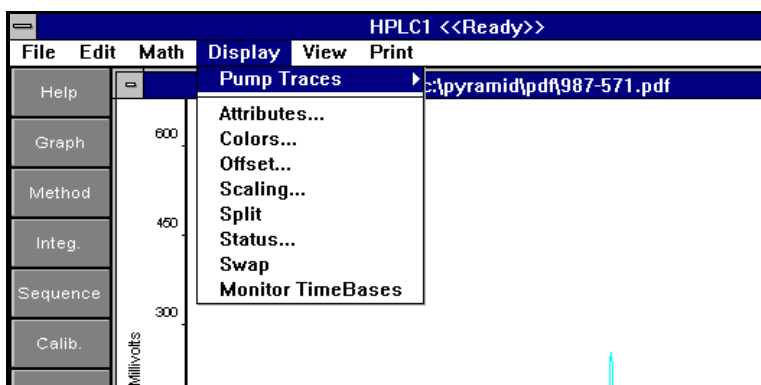

Figure 7.37 Display Submenu with HPLC Pumps
- Pump Traces: If HPLC pumps have been configured for the current time base, a separate command will appear at the top of the Display submenu, Pump Traces (Figure 7.37).